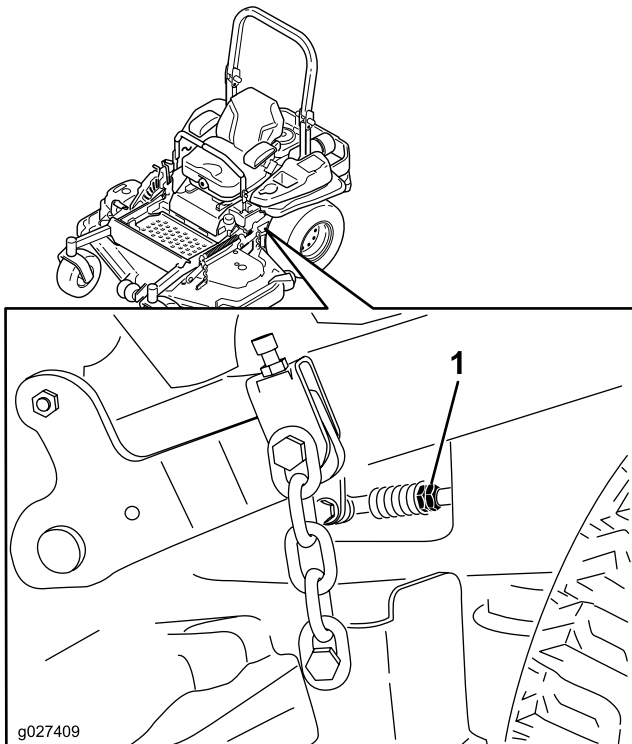

Figure 107
10. Adjust the pump-control-rod lengths by rotating the double nuts on the rod in the appropriate direction until the wheels slightly creep in reverse (Figure 107).